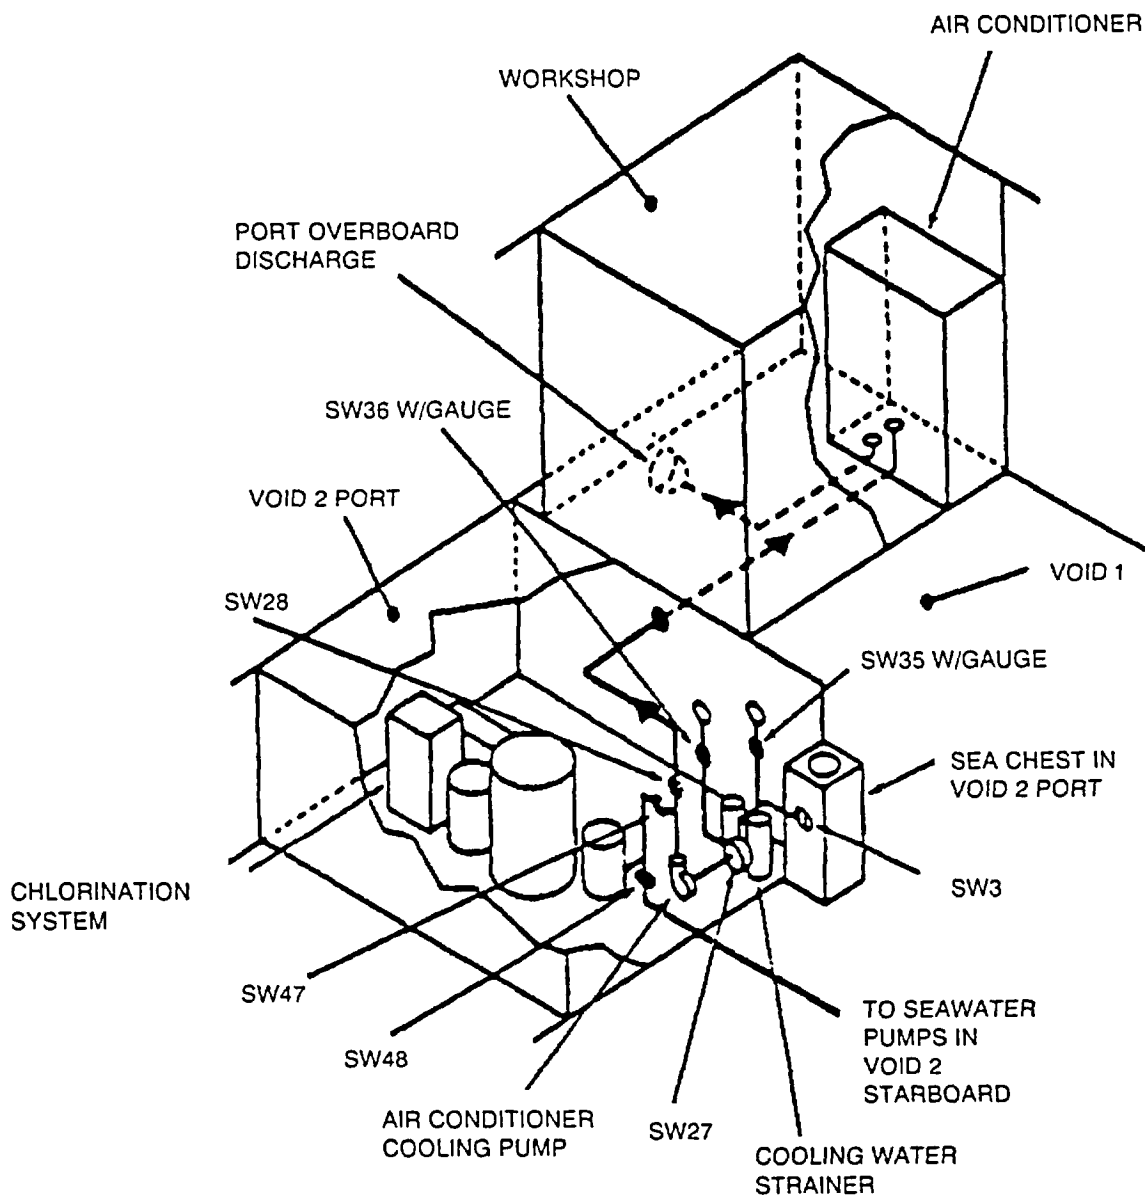

Figure 7-11. Location of Seawater Valves Affecting AC Unit
- d. Seawater valves SW3 and SW27 in void 2 port (Figure 7-11). SW3 controls water flow from forward seachest to seawater strainer 3 and SW27 controls flow of cooling water from seawater strainer 3 to cooling water pump.
- e. Seawater valve SW28, in void 1 underneath AC unit (Figure 7-11). Controls flow of cooling water from cooling water pump to AC unit.
- g. Seawater valve SW47 in void 2 port (Figure 7-11). Controls flow of seawater from cooling pump to chlorination unit.
- i. Cooling water pump controller on centerline bulkhead in void 2 port (Figure 7-11). Controls electrical power to cooling water pump.
- g. If AC unit is to be used and seawater pumps are NOT operating, set seawater valves as follows: (Figure 7-11)
- (1) Open SW3, SW27, SW28, SW35 and SW36.
- (2) Close SW47.
- h. If AC unit is to be used and seawater pumps ARE OPERATING, set seawater valves as follows: (Figure 7-11)
- (1) Open SW48, 47 and 28.
- (2) Close SW27 and SW3.